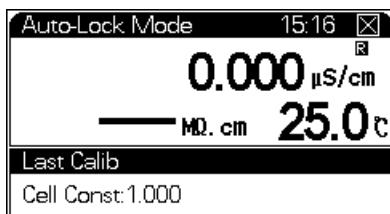

Figure 22 Measuring conductivity
- 3 Press [**Measure**] to start a measurement according to the selected mode. See **Figure 22**. The upper area of the screen shows the current measuring mode and system time. The central area of the screen shows conductivity, resistivity and temperature.